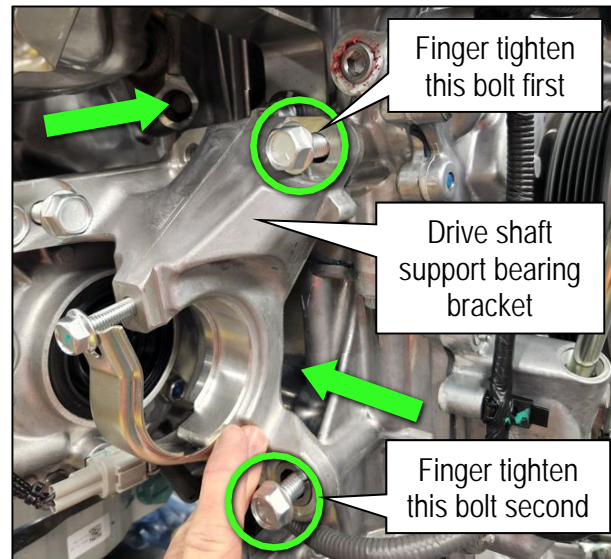

Figure 10
1. Place and hold the drive shaft support bearing bracket into position, ensuring it is flat against the engine block and flat against the transfer assembly and loosely install the bolts (Figure 10).